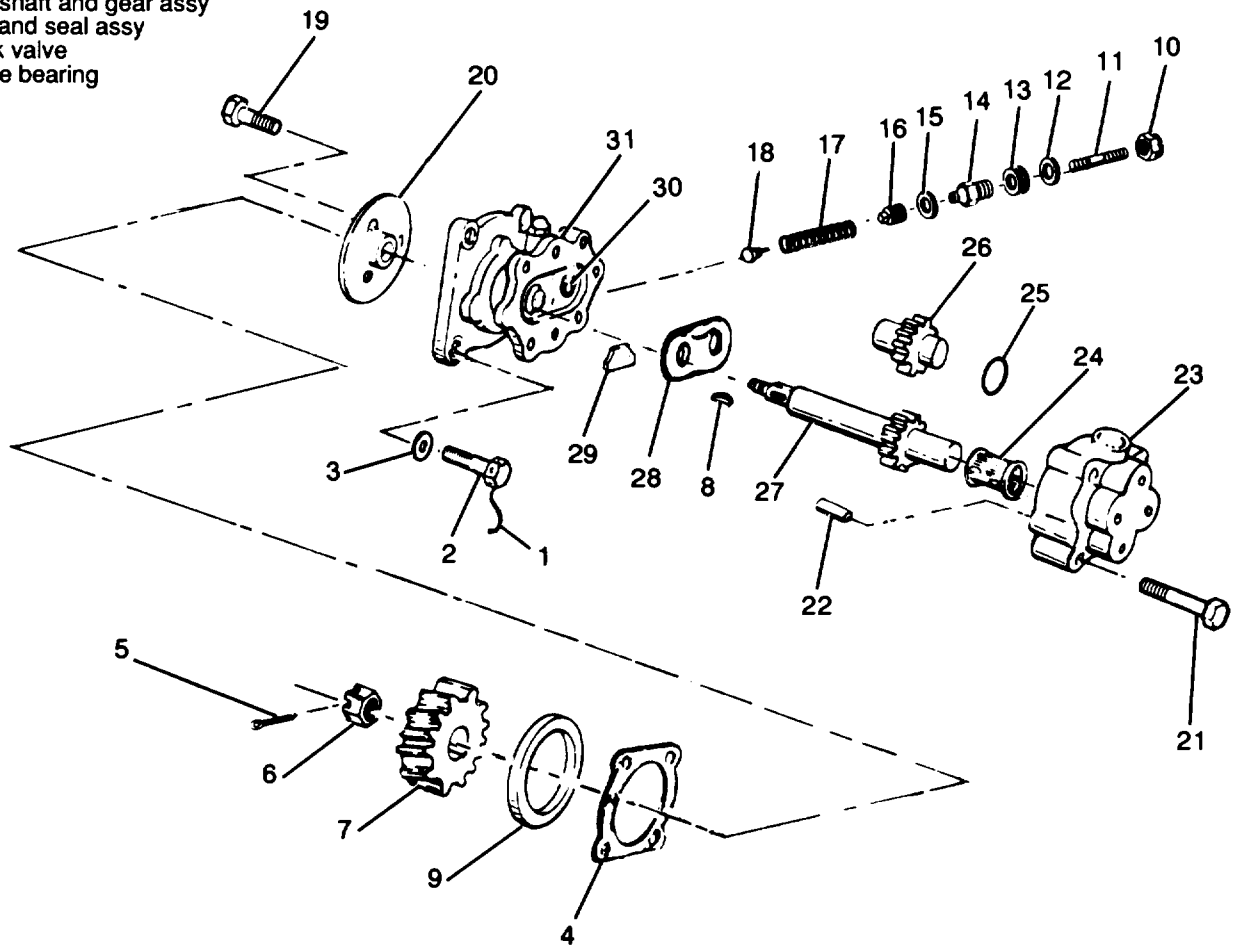

Figure 3-34. Hydraulic Pump Assembly, Exploded View
- (1) Refer to the Operator and Unit Maintenance Manual and drain the hydraulic sump.
- (2) Remove hydraulic lines and fittings from hydraulic pump assembly.
- (3) Remove lockwires (1, figure 3-34), screws (2) and flat washers (3) to remove hydraulic pump assembly and gasket (4). Discard gasket.
- (1) Install hydraulic pump assembly on a suitable test stand and provide a means of rotating at approximately 600 RPM.
- (2) Connect a hydraulic line to pump assembly inlet.
- (3) Connect a hydraulic line equipped with a pressure gauge, and a restriction valve to the pump assembly outlet.
- (4) Operate pump at approximately 600 RPM.
- (5) Close restriction valve until pressure gauge reads 320 ± 10 PSI. If 320 ± 10 PSI is not obtainable, loosen locknut and adjust pressure relief valve screw until 320 ± 10 PSI is reached.
- (6) Slowly close the restriction valve while observing the pressure gauge. The pressure should drop. If not, continue to adjust pressure relief valve screw until pressure does drop.
- (7) Loosen locknut and adjust pressure setscrew (11, figure 3-34) until pressure gauge indicates 320 ± 10 psig.
- (8) Tighten locknut and remove hydraulic pump assembly from test hookup.